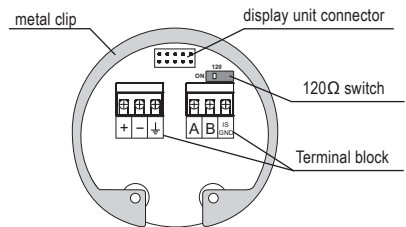

Fig. 34: Inside view of screw terminals of the level meter with Modbus GRLM-70 _ _ _ - M
6. If the level meter with Modbus is involved as a terminal for RS-485, we recommend (to avoid reflections on the line) to connect 120 Ω termination resistor. This is done by moving a small lever of the switch marked 120 Ω to the ON position. On the level meters connected to the line RS-485 as an intermediate device, the termination resistors are not connected (switch remains off) in Fig 34.